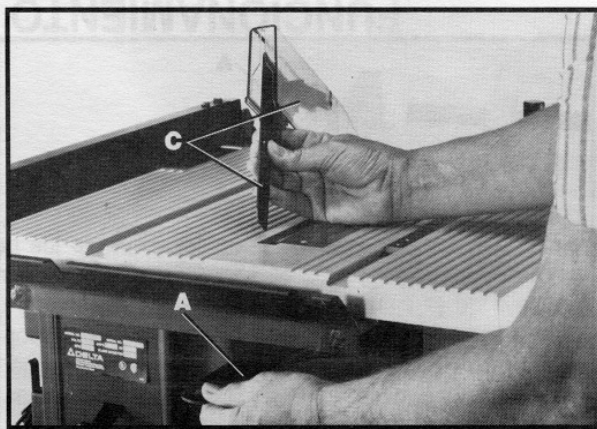

Fig. 40
3. Push in on wrench (A) Fig. 40, until splitter lock is released. Then remove blade guard (C) as shown. **NOTE:** It is important that the splitter be in the vertical position and is pulled straight up during the removal procedure.
4. **IMPORTANT: ALWAYS REPLACE BLADE GUARD (C) FIG. 40, AFTER THE NON THRU-SAWING OPERATION IS COMPLETE.** Refer to the section of this manual entitled "ASSEMBLING BLADE GUARD" when replacing the blade guard.